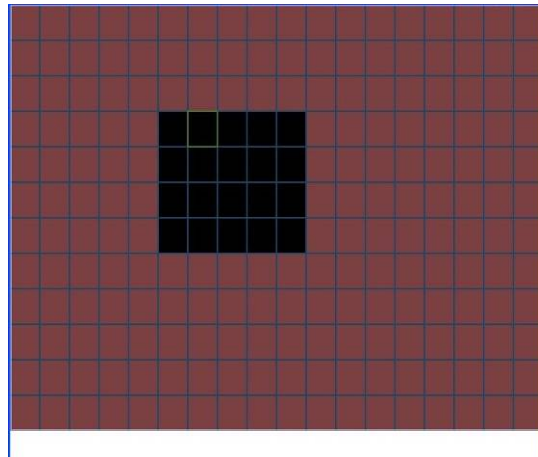

Figure 4-15
- Region: Click select button, the interface is shown as in Figure 4-15. Here you can set motion detection zone. There are 396(PAL)/330(NTSC) small zones.
In Figure 4-15, you can left click mouse and then drag it to set a region for motion detection. Click Fn to switch between arm/withdraw motion detection. After setting, click enter button to exit.